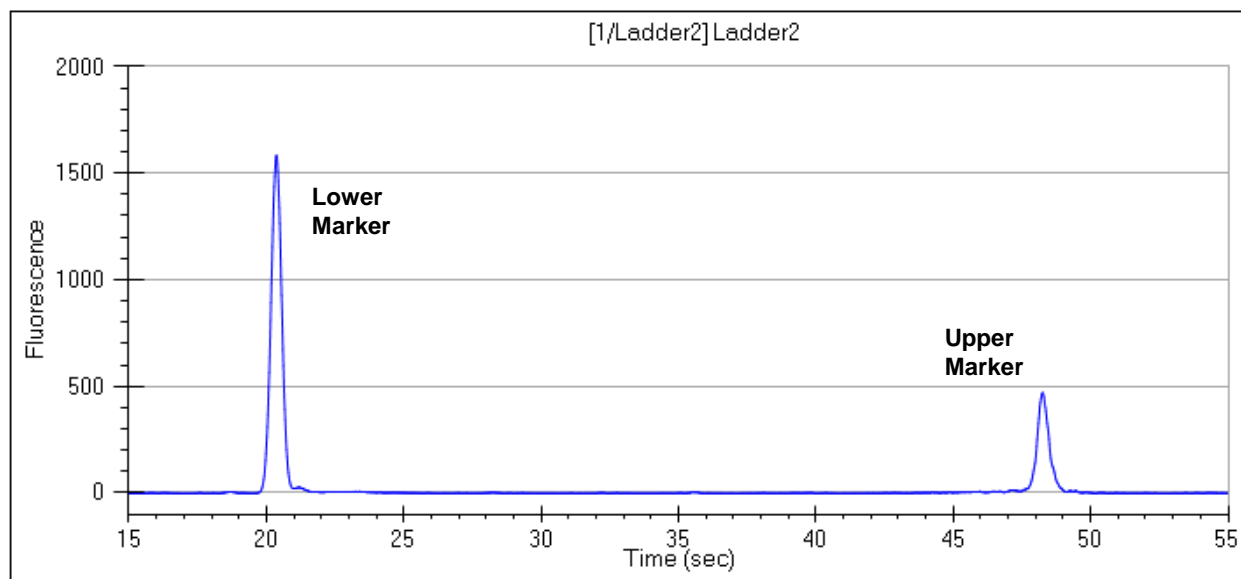

Figure 13. Example electropherogram of Ladder with marker peaks but no ladder peaks.
1. **Symptom: No ladder fragments and/or sample peaks detected. See Figure 13 for an example.**